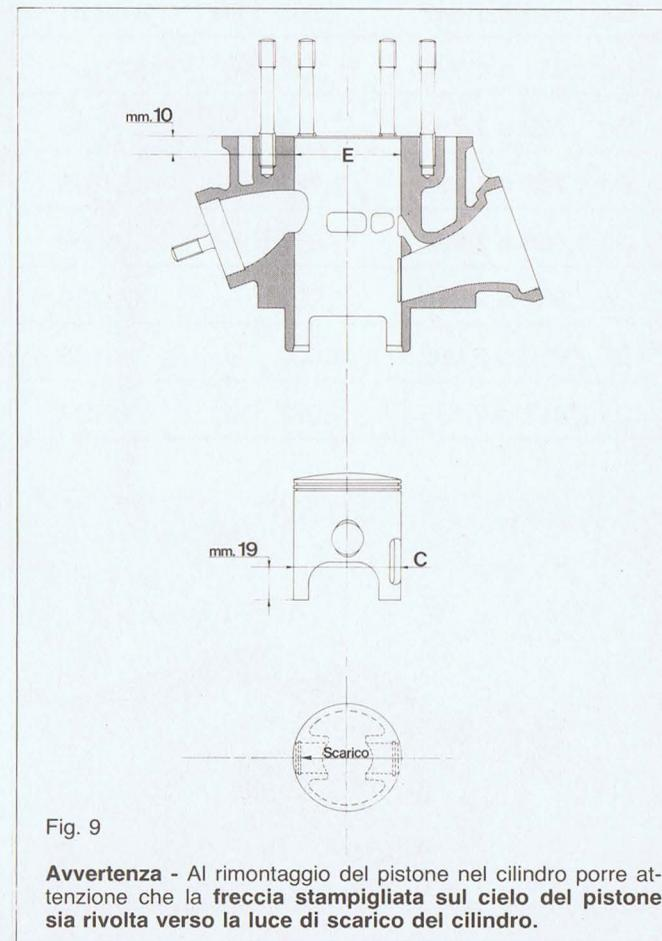

Fig. 9
**Cilindro - Pistone (Fig. 9)**